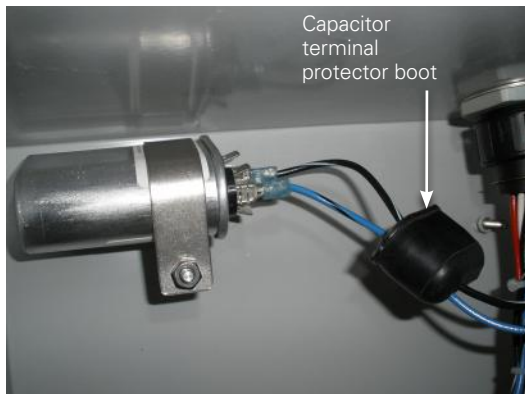

Figure 25. Motor capacitor connections.
10. Push the blue/black and black/white wire terminals on to the capacitor terminals as shown in Figure 25.